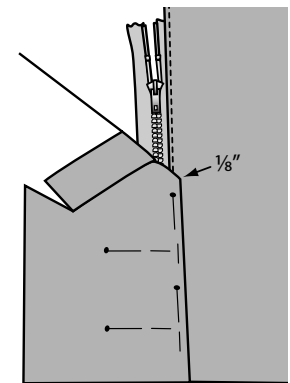

Figure 10
4. With the zipper closed, position the overlap. The edge of the overlap will be ¼ inch over the zipper teeth in line with original seam line. (Figure 10) Place pins parallel to the zipper (pins hold zipper more securely than hand basting). Place a few pins perpendicular to the zipper on the overlap or hand baste.